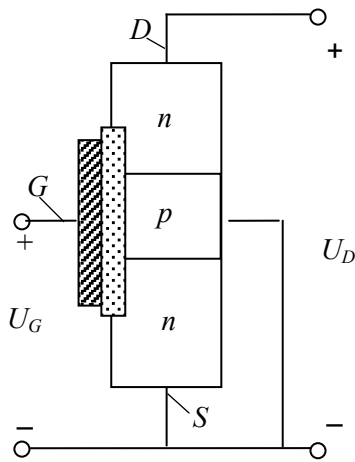
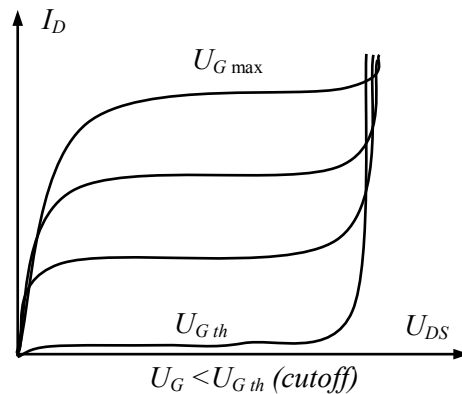

Fig. 1.39
Fig. 1.41
**Enhancement-mode MOSFET.** Figs. 1.39 and 1.40 display an  $n$ -channel *enhancement-mode MOSFET*. These devices have revolutionized the electronics industry. Because there is no longer an  $n$  channel between the source and the drain, an enhancement-mode MOSFET is normally off when the gate voltage is zero, whereas a depletion-mode device is normally on. When the gate voltage is positive enough, electrons fill all the holes touching the silicon dioxide. The effect is the same as creating of a thin layer in  $n$ -type material next to silicon dioxide. This conducting layer is called an  $n$ -type *inversion layer*. The normally off device suddenly turns on and free electrons begin to flow easily from the source to the drain. The minimum  $U_{GS}$  that creates the inversion layer is called a *threshold voltage*,  $U_{G\ th}$ . Figs. 1.41 and 1.42 reflect a set of drain curves and an input curve for an enhancement-mode MOSFET, where the vertex (starting point) of the transconductance parabola and lowest drain curve are at  $U_{G\ th}$ .